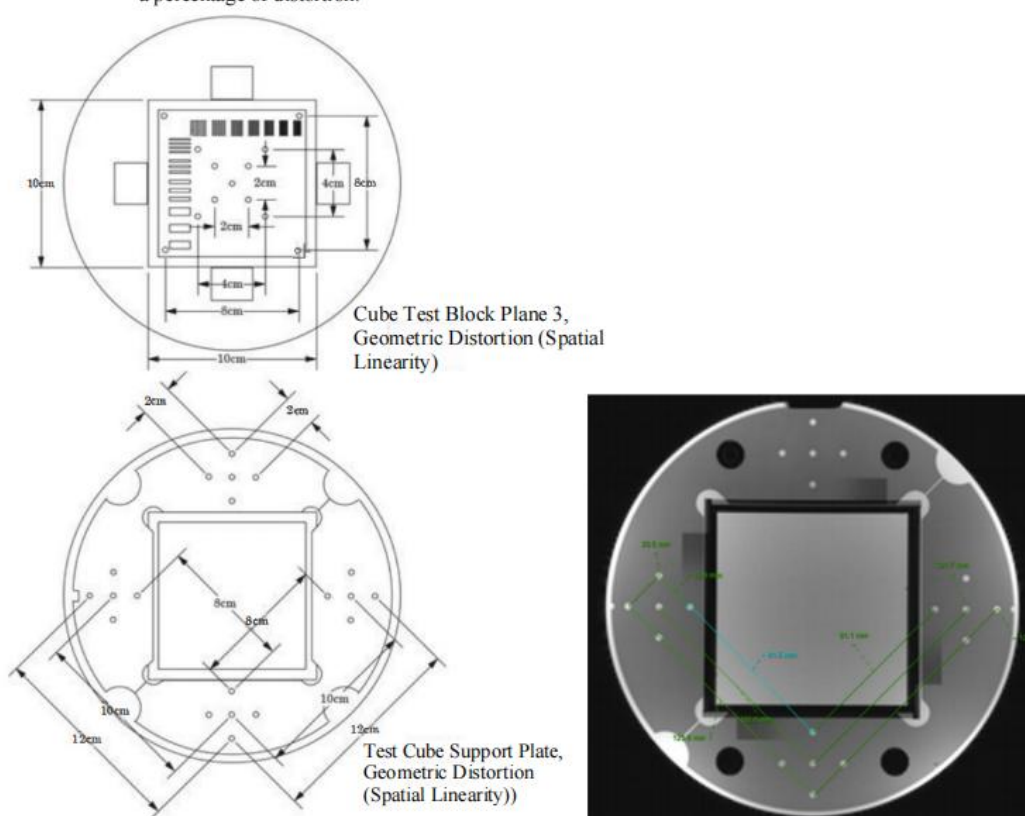

Figure 3 – Two Geometric Distortion Test Modules
The phantom includes two test modules for geometric distortion: one on the spatial resolution test card and one on the cube support plate (see Figure 3). Measure the distances between holes in the frequency-encoding direction (X) and the phase-encoding direction (Y), compare with the true distances (indicated in Figure 3), and substitute into the following formula: